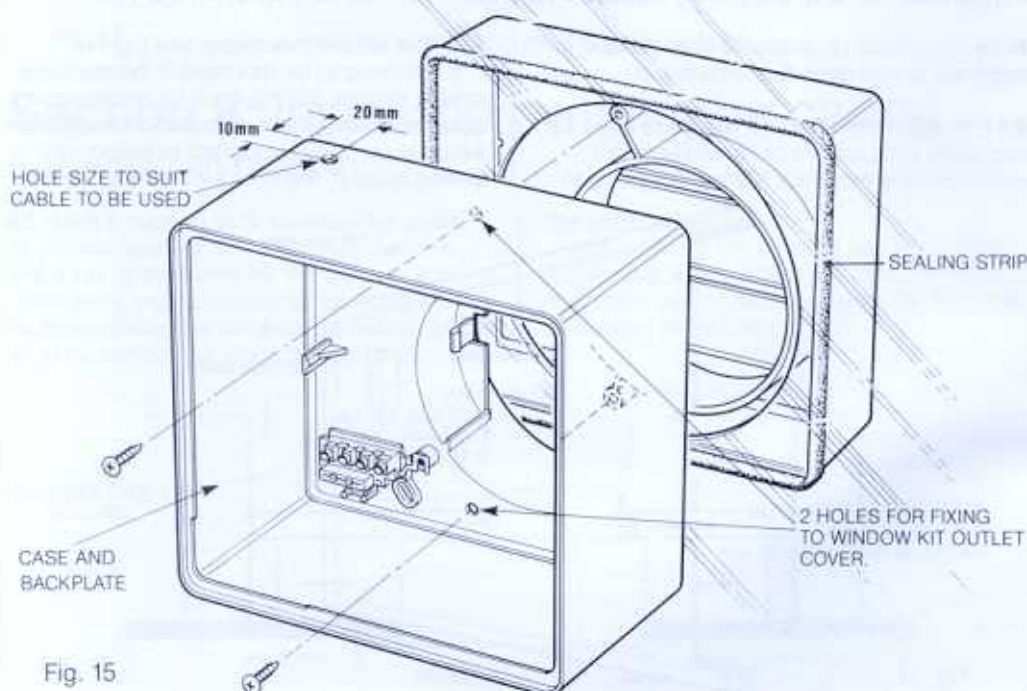

Fig. 15
9.3 Drill a hole in the fan case for the mains cable and knock out the holes for fixing to the window kit (see Fig. 15).